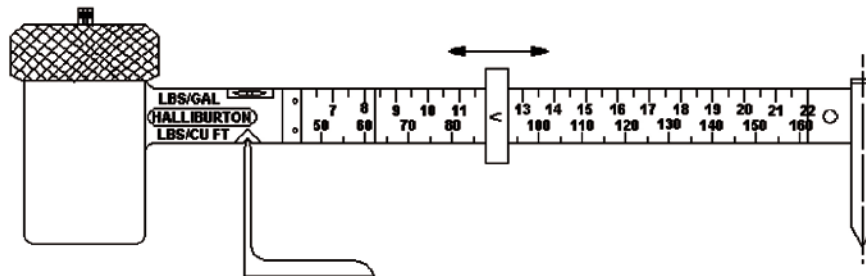

Figure 4-6 Weighing pressurized sample
The pressurized fluid is now ready for weighing. See Figure 4-6.
2. Place the instrument on the knife edge as illustrated in Figure 4-6.